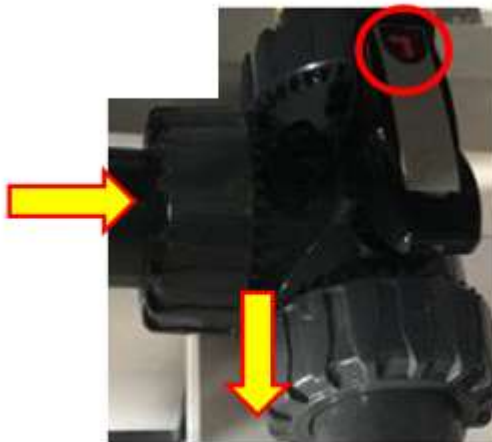

Figure 7.24 – Reject/Chem Diversion Valve
- 4) Position Valves - Rotate Reject/Chem Diversion Valve handle to recirculation, the red arrows on the handle indicate direction. In Figure 7.24 below, the yellow arrows indicate flow direction. This position will force the chemical cleaning to recirculate in the system.